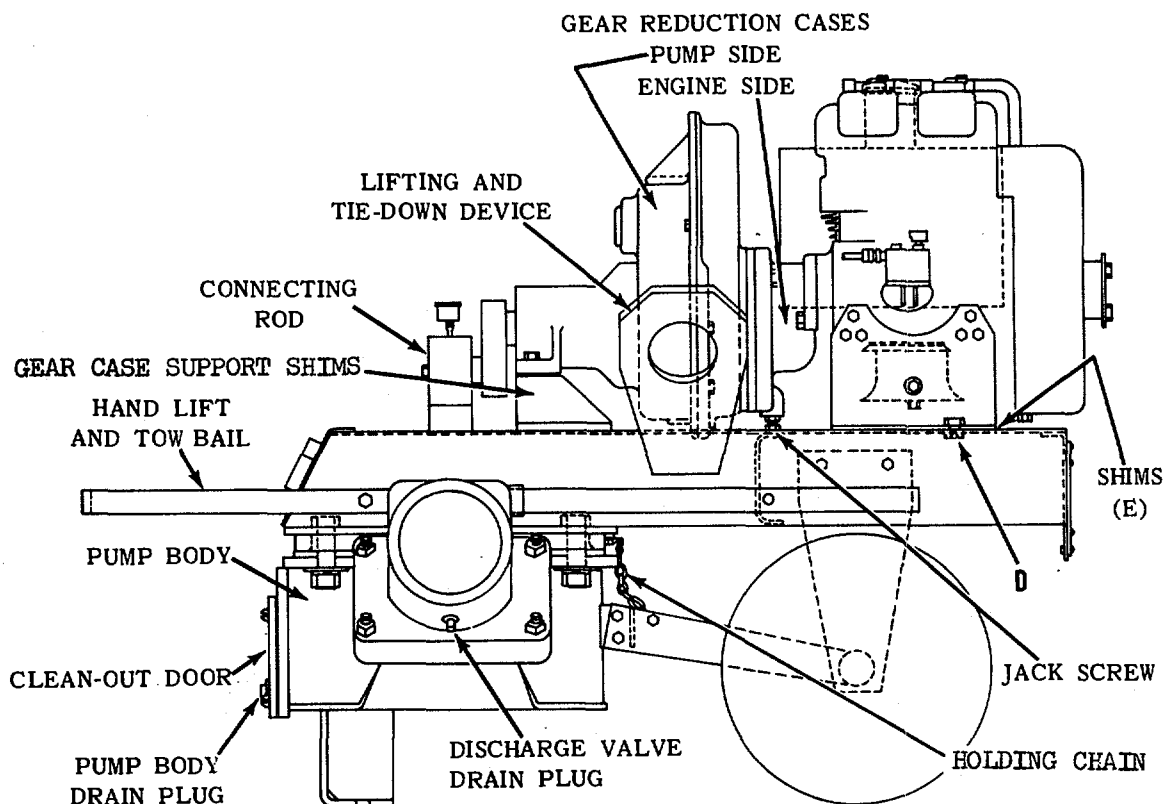

FIGURE 7
- C. Ref. Fig. 6. Remove the two 1/2" bolts, lock washers and nuts (B) holding gearcase to the gearcase support. Ref. Fig. 7. Remove two bolts with lock washers and nuts (D), Fig. 7, holding engine to frame. Save shims (C) Fig. 6, and shims (E) Fig. 7 for reuse.
- E. Twelve 5/6" cap screws (F) holding the cover halves together. Remove these bolts and pull reduction case assembly (H) from intermediate section (J). Gasket (G) should be replaced new in reassembly.
- F. Pry out snap ring (K) and pull spur gear (L) off pinion shaft (U). The 1/4" straight key may be saved for reuse if not damaged.
- G. Remove three 5/16" socket head cap screws with lock washers (M) and retainer (N).
- H. Straighten ear of lock washer (P). Remove lock nut (O) and washer (P). Pull output shaft crank arm (Q) from housing (A). Retain gear (R) from falling. Remove key (S) and manipulate gear (R) from housing. Remove spacer (T).
- I. Pull pinion shaft (U) with bearings (V) and (W) from housing. Bearings (V) and (W) may be removed from pinion shaft.
- J. Remove the two round head screws and oil trap (X), and snap ring (Y).
- K. Bearing (Z) may be pulled from bore of housing. Pull out spacer (AA) and pull out bearing (B3B) from housing, and inner snap ring (Y).
25. Lifting and Tie Down (Ref. Fig. 7)